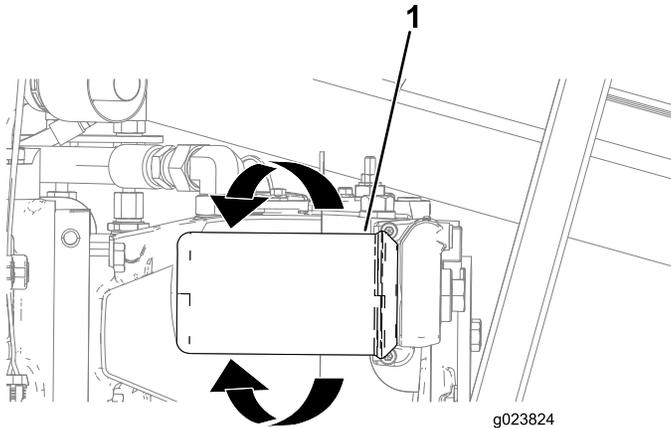

Figure 123
3. Align a drain pan or several rags under the charge filter (Figure 123).
4. Rotate the charge filter counterclockwise and remove the filter (Figure 123).
6. Align the charge filter to where it seats, and rotate it clockwise until the seal of the filter contacts the adapter (Figure 123).